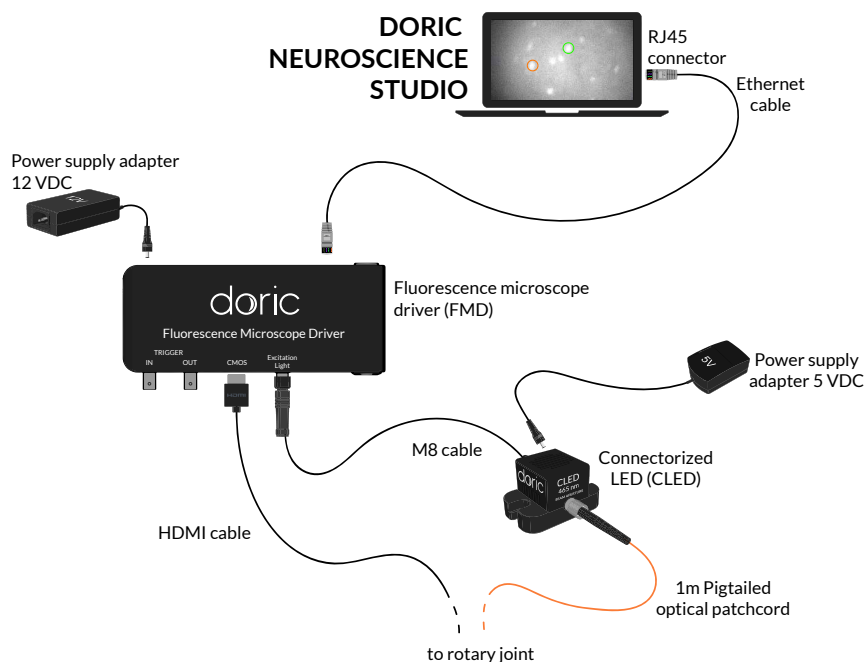

Figure 3.15: GCaMP6 system configuration
- The **eTFMB GCaMP6** configuration (Section 3.7.3, Fig. 3.15) allows the imagery of **GCaMP6** fluorescence.